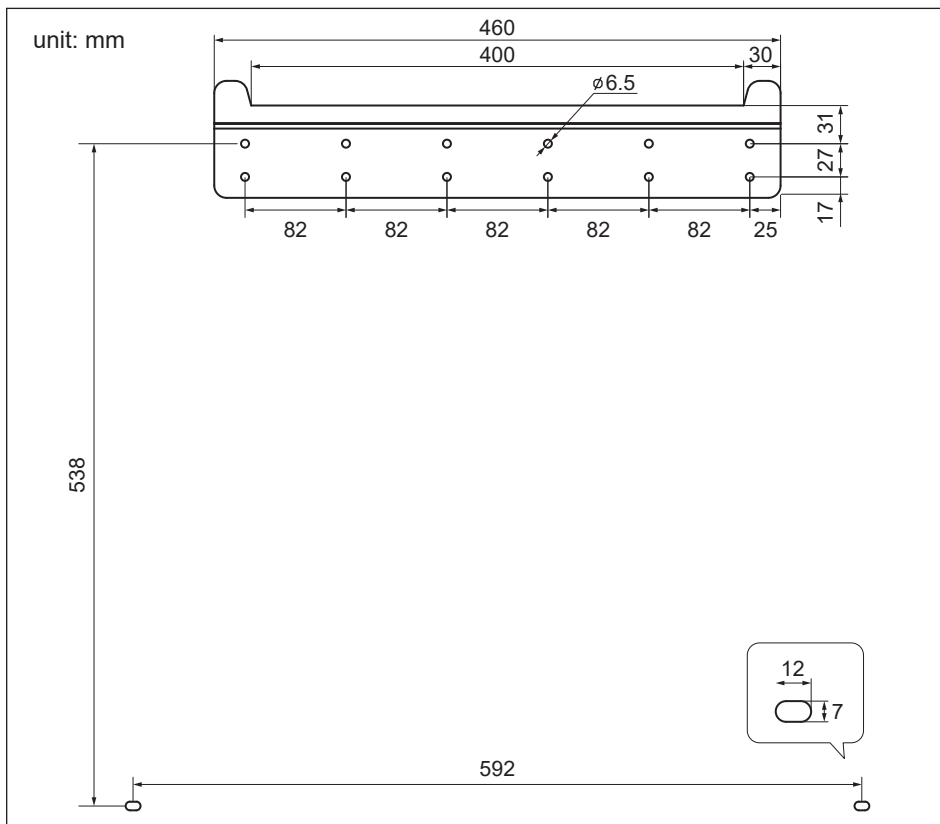

Figure 3-5: Mounting bracket dimensions
2. Orient the wall bracket (**Figure 3-5**) horizontally (perpendicular to the floor).